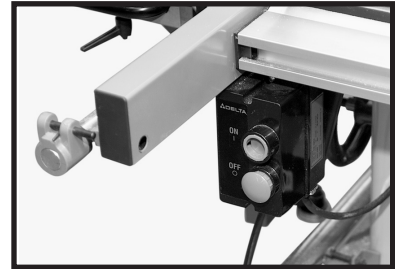

Fig. 26
6. If your unit has the GPE switch (different from the one in Fig. 26), remove the bracket from the switch and attach the sheet metal bracket (#9 in **CARTON CONTENTS**). Attach it by moving from the original position to the position shown in Fig. 26.